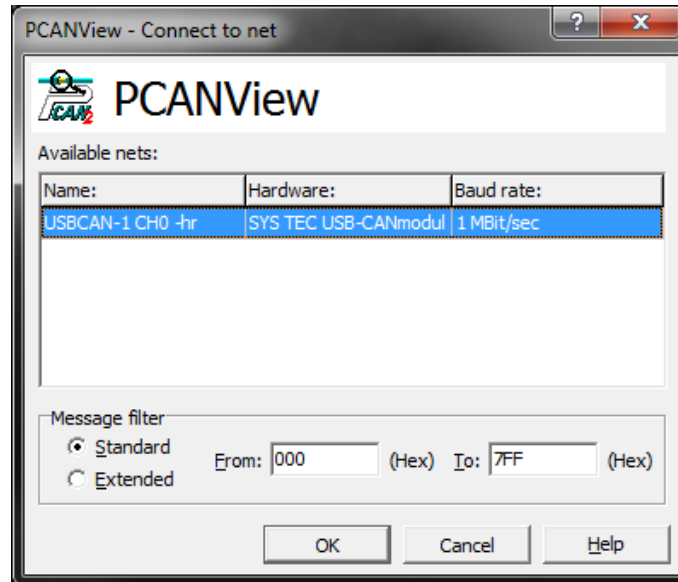

Figure 6: Dialog Box Message Filter Configuration
- n If this parameter is set, the dialog box to configure the message filter will be skipped (see Figure 6). In this case all CAN messages will always be received.